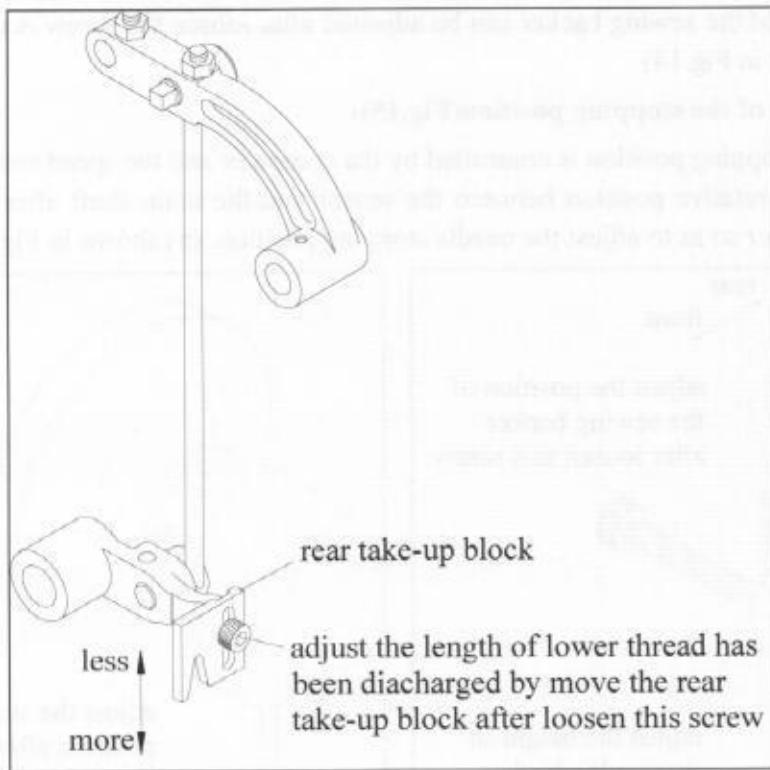

Fig.11
4.7.5 Loosen the screw A then adjust the height of the rear take-up block to set the length of lower thread has been discharged. (as shown in Fig.11)